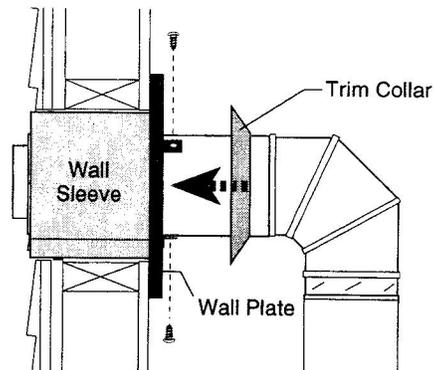

Figure 36. Install the horizontal pipe and wall plate parts.
19. Seal the ends and connect the horizontal pipe to the elbow. Secure the Wall Plate to the pipe using three sheet metal screws. Slide the Trim Collar up against the Wall Plate to cover the screws. Fig. 36.